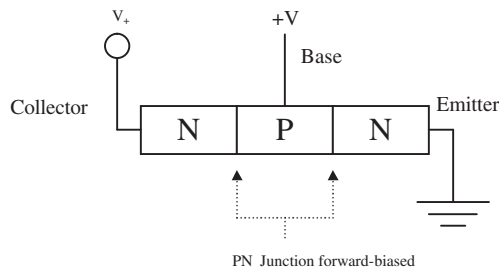

Figure 3-41: NPN BJT transistor
14. [T/F] The NPN-BJT transistor shown in Figure 3-41 is OFF.